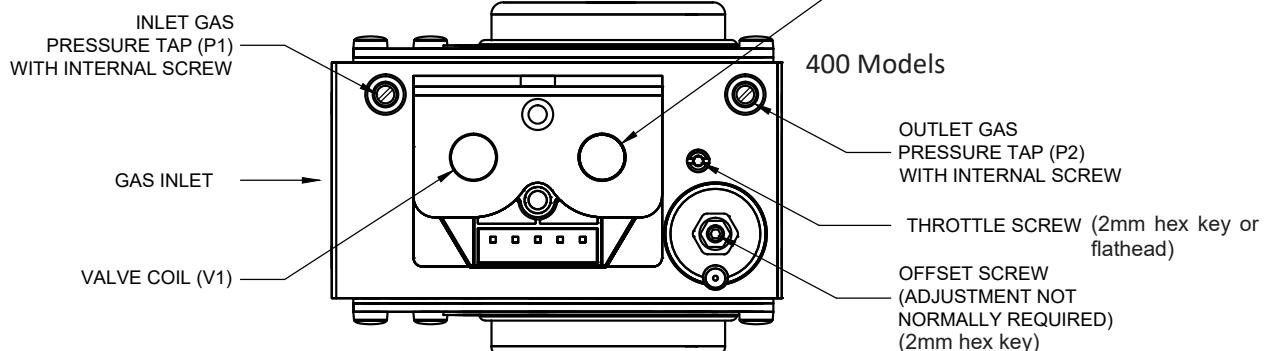

Figure 33: Gas Valve Adjustment
- d. If high fire O_2 is too high (CO_2 is too low), decrease O_2 (increase CO_2) by turning the throttle screw counter-clockwise in 1/4 turn increments and checking the O_2 (or CO_2) after each adjustment. Refer to Figure 33 for location of throttle screw. Verify CO air free is less than 200 ppm.
- e. If high fire O_2 is too low (CO_2 is too high), increase O_2 (decrease CO_2) by turning the throttle screw clockwise in 1/4 turn increments and checking the O_2 (or CO_2) after each adjustment. Refer to Figure 33 for location of throttle screw. Verify CO air free is less than 200 ppm.